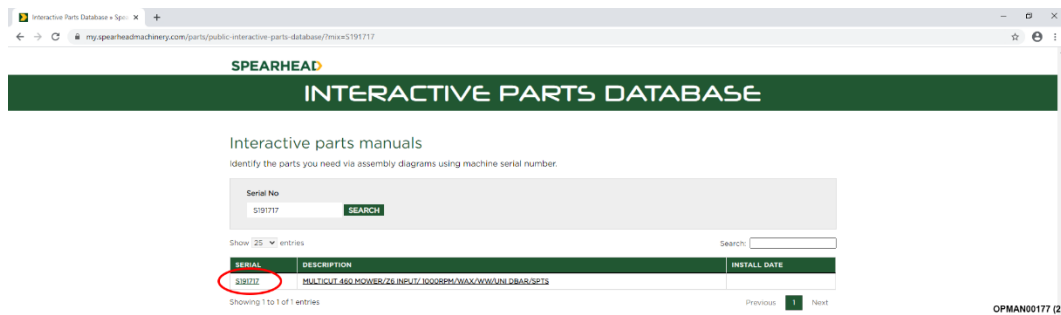

Figure 19 – Click On Serial Number
7.2.1.2 After entering the serial number a specification for the machine will appear. Click on the serial number; see Figure 19.